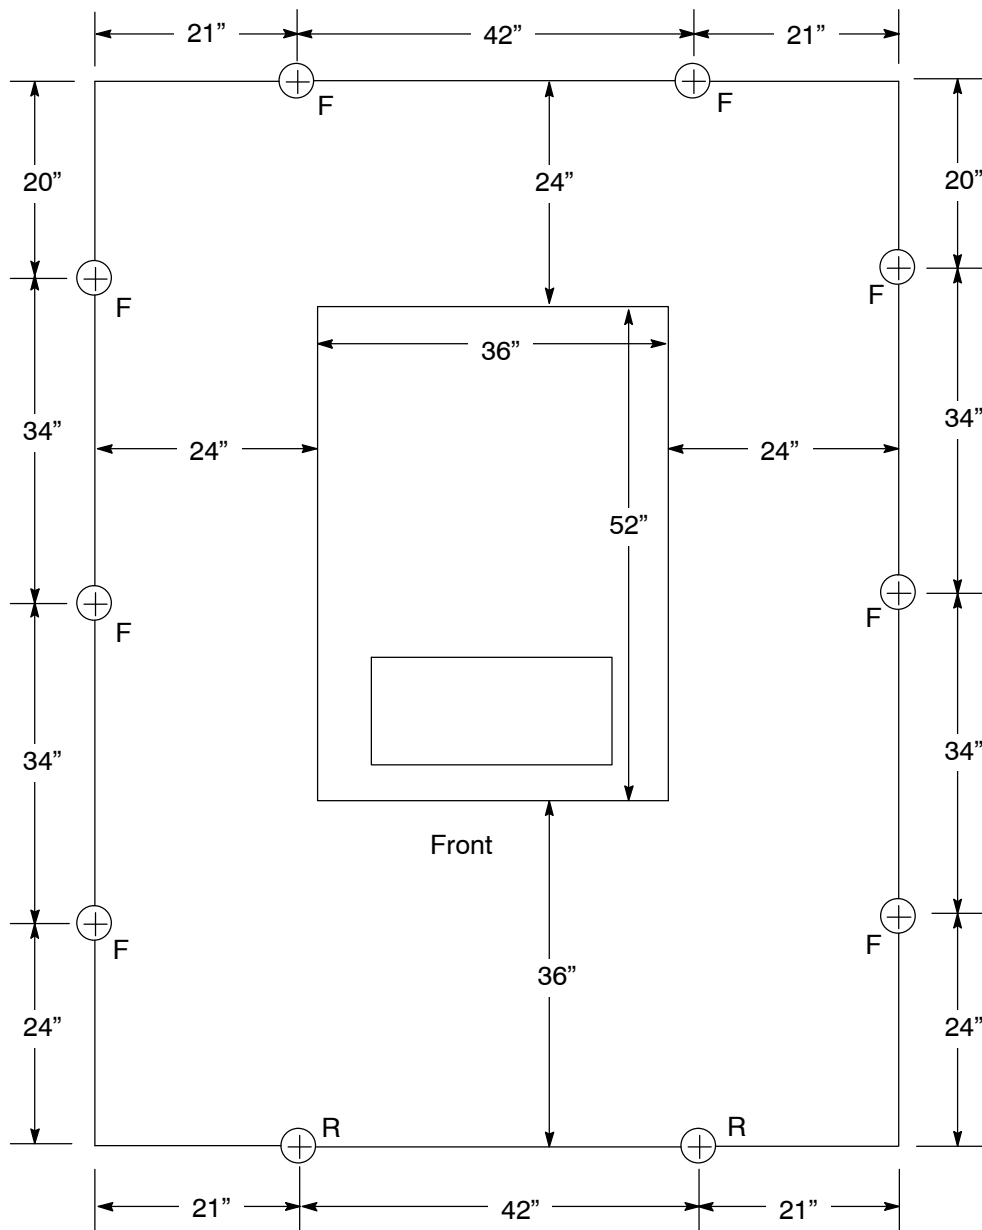

Figure 11
29. Preferred barrier post arrangements for specific equipment are provided in Figure 11 on Page 11 to Figure 23 on Page 23. These may be modified as needed, to meet specific layouts, but must conform to the requirements in Figure 10 on Page 10.